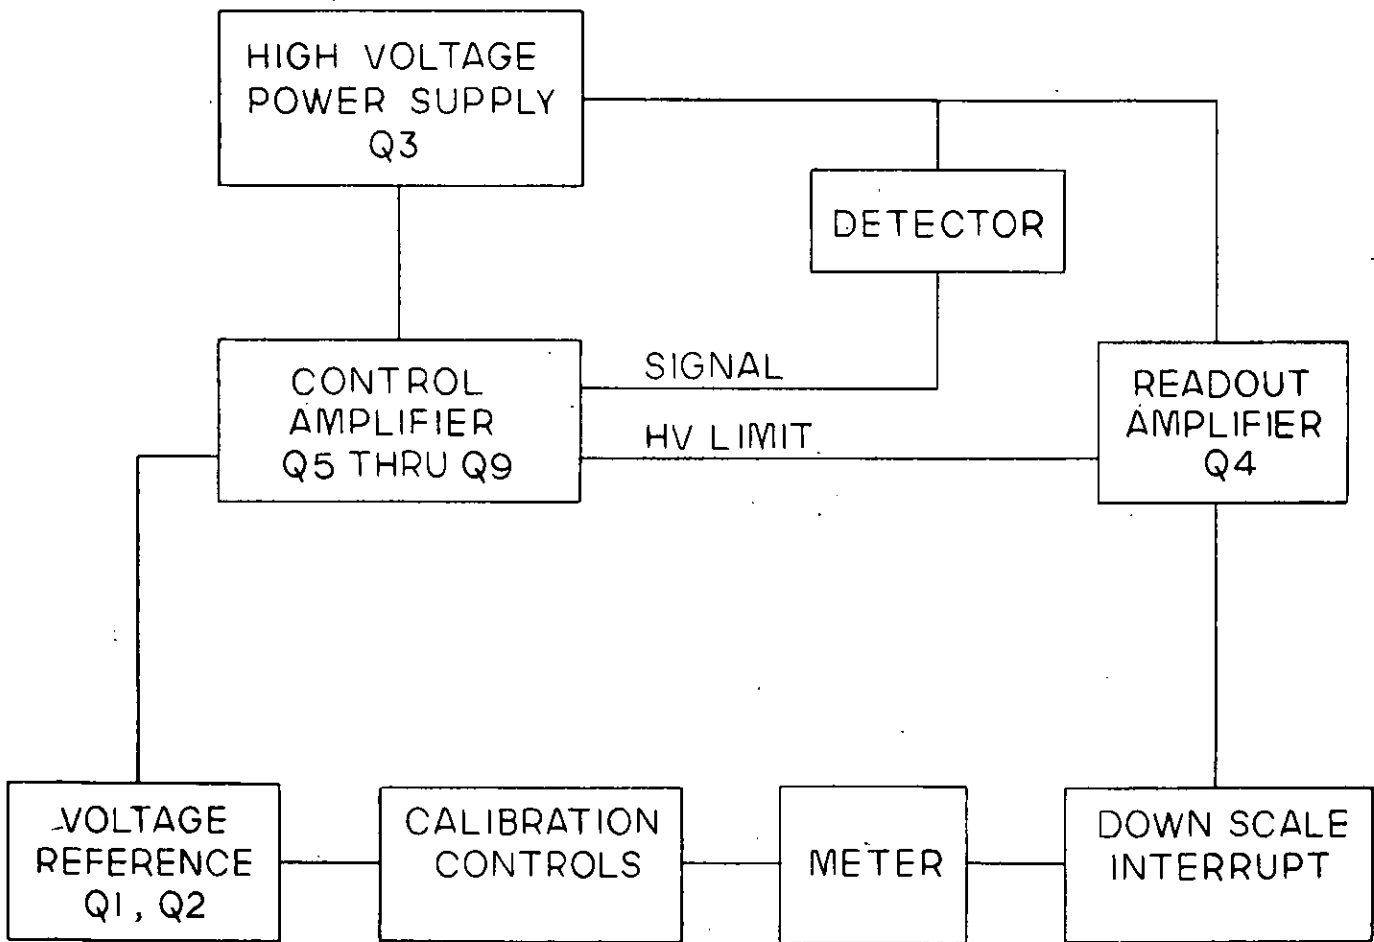

Figure 3-1. System Block Diagram (10540-B54)
A. GENERAL (See Figure 3-1)
B. FUNCTIONAL THEORY (See Figures 3-1 and 6-1)